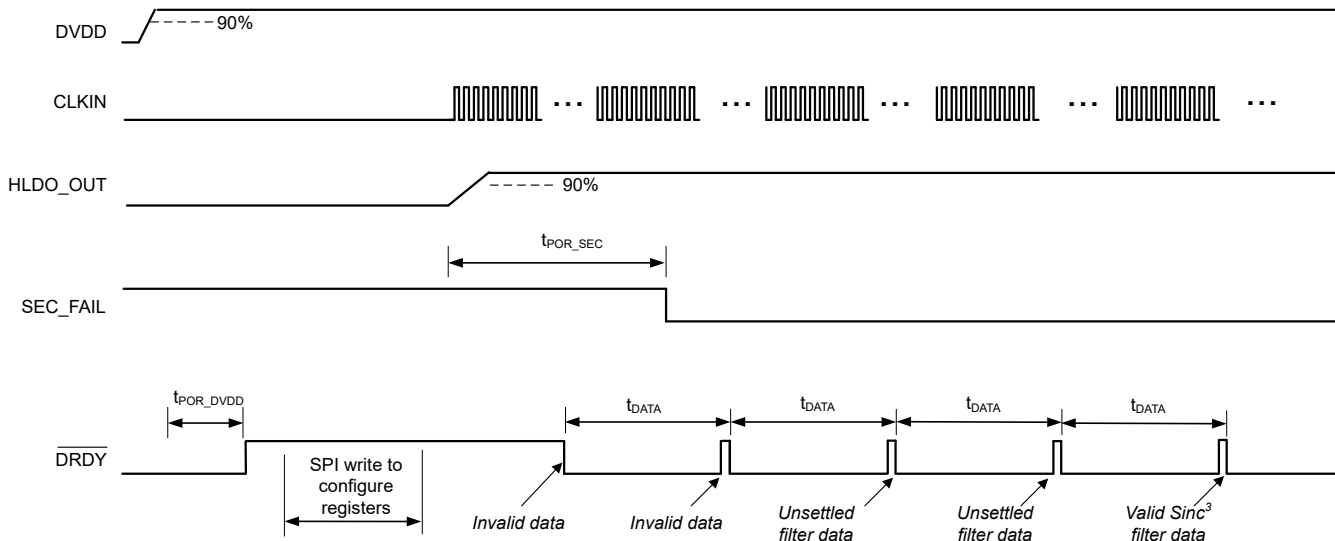
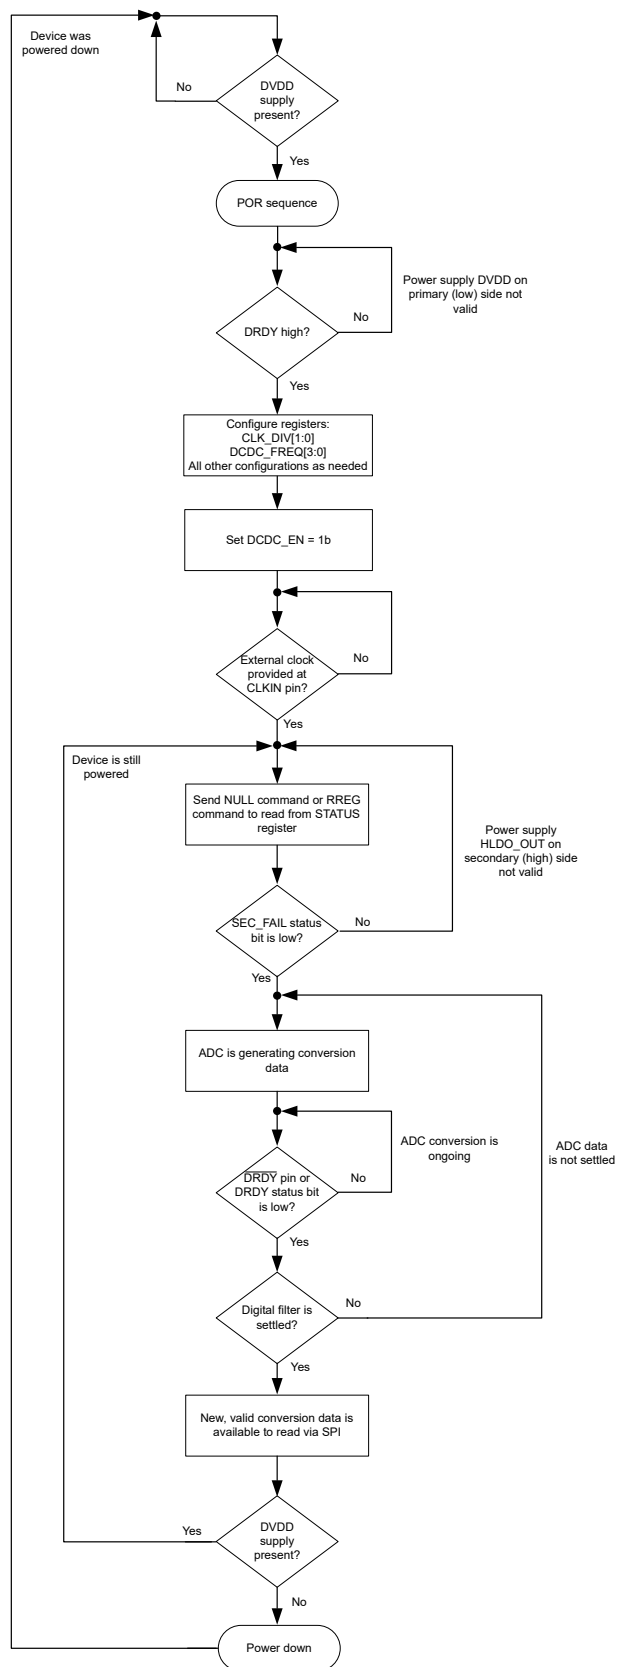

Figure 8-16. Start-Up Behavior at Power-Up and Settling Times, OSR = 1024
図 8-17. Flow Diagram for Start-Up Procedure at Power-Up
A recommended procedure for powering up the AMC130M02 is described in this section. Figure 8-16 depicts a timing diagram for the device behavior when this recommended sequence is used. Figure 8-17 provides a flow diagram that displays the recommended sequence in a graphical form.
- The high-to-low transition of $\overline{\text{DRDY}}$ indicates that new conversion data are available. As given in Figure 8-16, ADC data are only valid if the SEC_FAIL reads 0b during the conversion period. The first two conversion results shown in Figure 8-16, represent invalid data.
- When the ADC generates valid data, the digital filter must settle, as described in the SINC³ and SINC³ + SINC¹ Filter section. Two subsequent conversion results illustrated in Figure 8-16 are unsettled (assuming OSR equals 1024), and the last conversion result shown provides valid and settled data.
In Figure 8-16, $t_{\text{POR_SEC}}$ is the time from enabling the DC/DC converter to the first falling edge of the SEC_FAIL bit, which indicates that the secondary power supply at the HLDO_OUT pin is stable. $t_{\text{POR_DVDD}}$ is the time from DVDD supply at 90% to $\overline{\text{DRDY}}$ first rising edge.